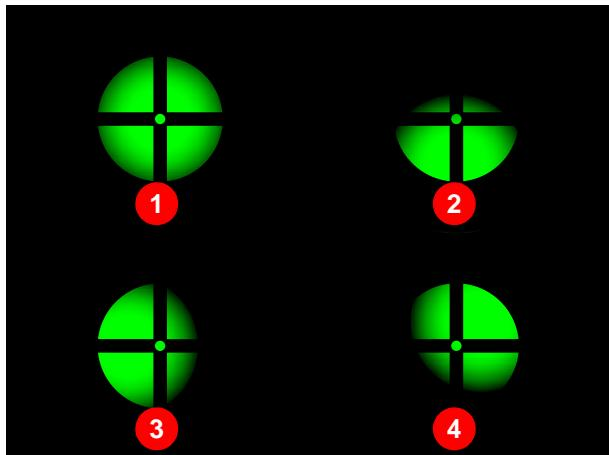

Figure 6.14 Checking the beam adjustment
15. Open the shutter and check the image of the laser on the transducer disk. Figure 6.14 shows examples for possible images:
- Adjustment OK (1)
- Emission too low (2)
- Emission too far to the left (3)
- Emission too far to the right (4)
20. Open the shutter and check the image of the laser on the transducer disk (see Figure 6.14).